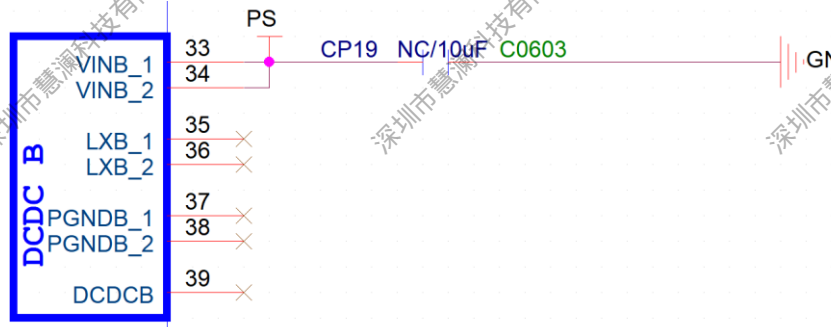

Figure 2-4 AXP305 DCDCB
- The input and output filter capacitors of each DCDC and LDO that are not used by the PMU can be deleted in the actual solution application, but the input power supply must be maintained, such as DCDCB shown in Figure 2-4.